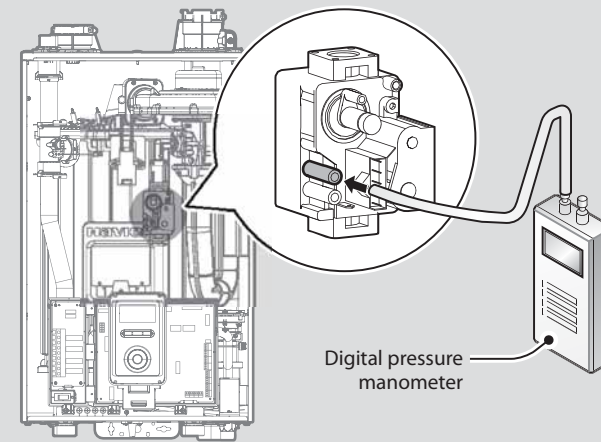

Figure 8. Connect Digital Pressure Manometer
- Open the offset pressure port by loosening the screw two turns as shown in Figure 8.